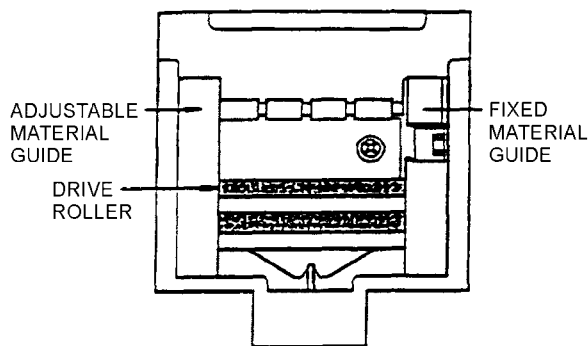

Figure 24. Drive Roller
- b. The drive roller is a rubberized roller located directly under the fixed and adjustable material guide. Push down on adjustable material guide and slide left/right in order to access the entire drive roller (Figure 24).